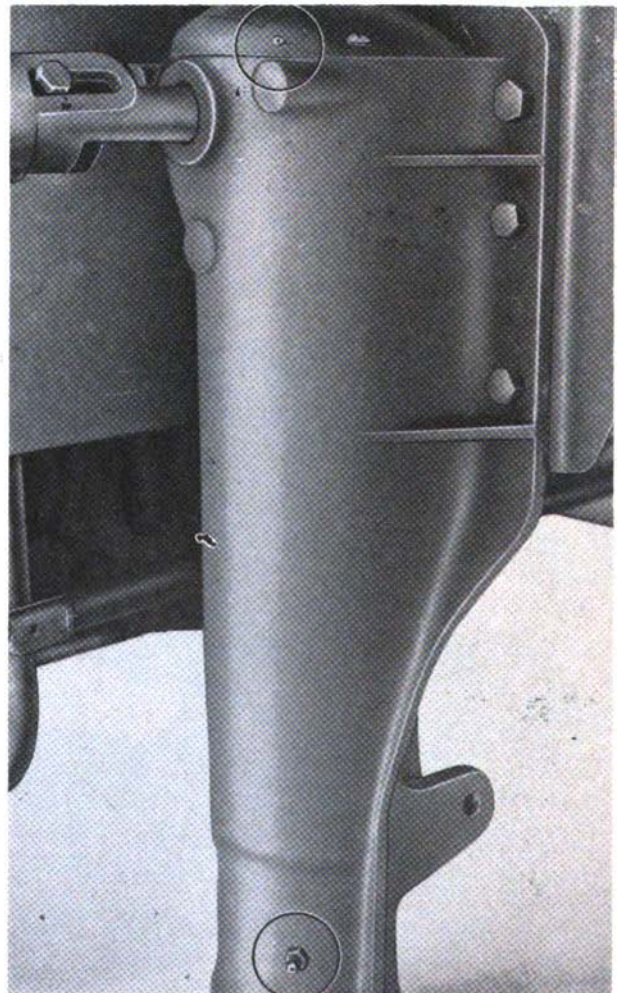

Figure 14. Lubrication points, front landing-gear leg.
e. Lubrication fittings, grease cups, oilers, and oilholes are readily identified by reference to lubrication orders and illustrations (figs. 14-